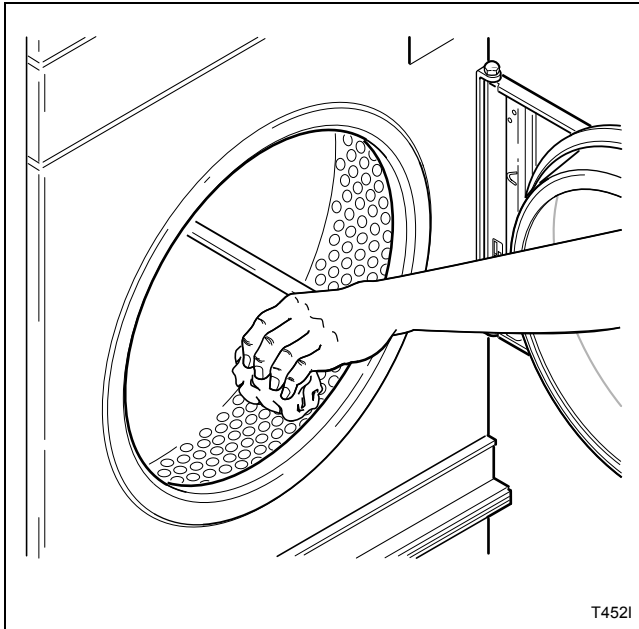

Figure 5
9. Wipe out the cylinder using an all-purpose cleaner or detergent and water solution. Refer to *Figure 5*.